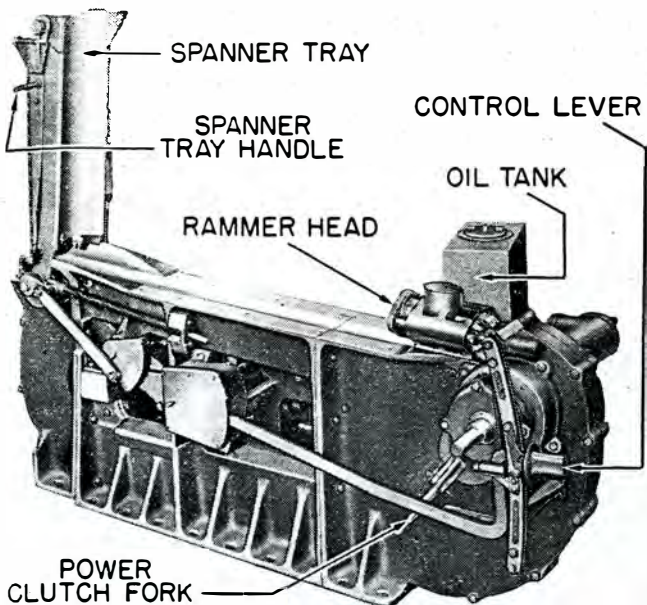

Figure 12. Rammer, left side.
b. To ram the projectile. No. 4 moves the rammer control lever (figs. 12 and 13) up to the RAM position. For safety reasons he should grip the handle loosely or, even better, rest his hand on top of the rammer control lever. As the projectile nears the seated position, the unstroking device moves the hydraulic speed gear control and the control lever toward neutral. No. 4 follows the rammer control lever down with his hand, shoving the handle the last short distance to the neutral position. The unstroking device will not move the control lever completely to neutral because the device is adjusted to bring the rammer head to a stop after a seating stroke of $99\frac{1}{2}$ inches which is a few inches longer than the stroke actually required to seat the projectile. Therefore, the control lever does not reach the neutral position and must be moved there by hand.
g. **To ram the projectile by hand using the rammer.** No. 4 first pins the power clutch fork (fig. 12) in the inner hole to disengage the rammer motor from the gearing. Next, the hand cranks are assembled to the crankshaft and the control lever placed in the neutral position. No. 4 then takes position at the left-hand crank with two other men and supervises the work of hand ramming. Three more men are needed on the other hand crank to obtain proper seating of the projectile. The speed of the cranks should be steadily increased so that maximum speed is obtained at the instant of the seating of the projectile. Care should be taken to see that no one is injured when the chain and cranks stop with a jerk at the instant the projectile is seated.